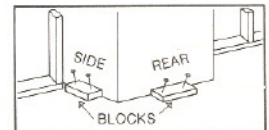

FIG. 2
- MOVE** fireplace into planned location; unless fireplace is to be held securely in position by walls and Hearth Extensions, fasten blocks to floor to prevent fireplace from shifting (Fig. 2). Insert insulation pad under fireplace.